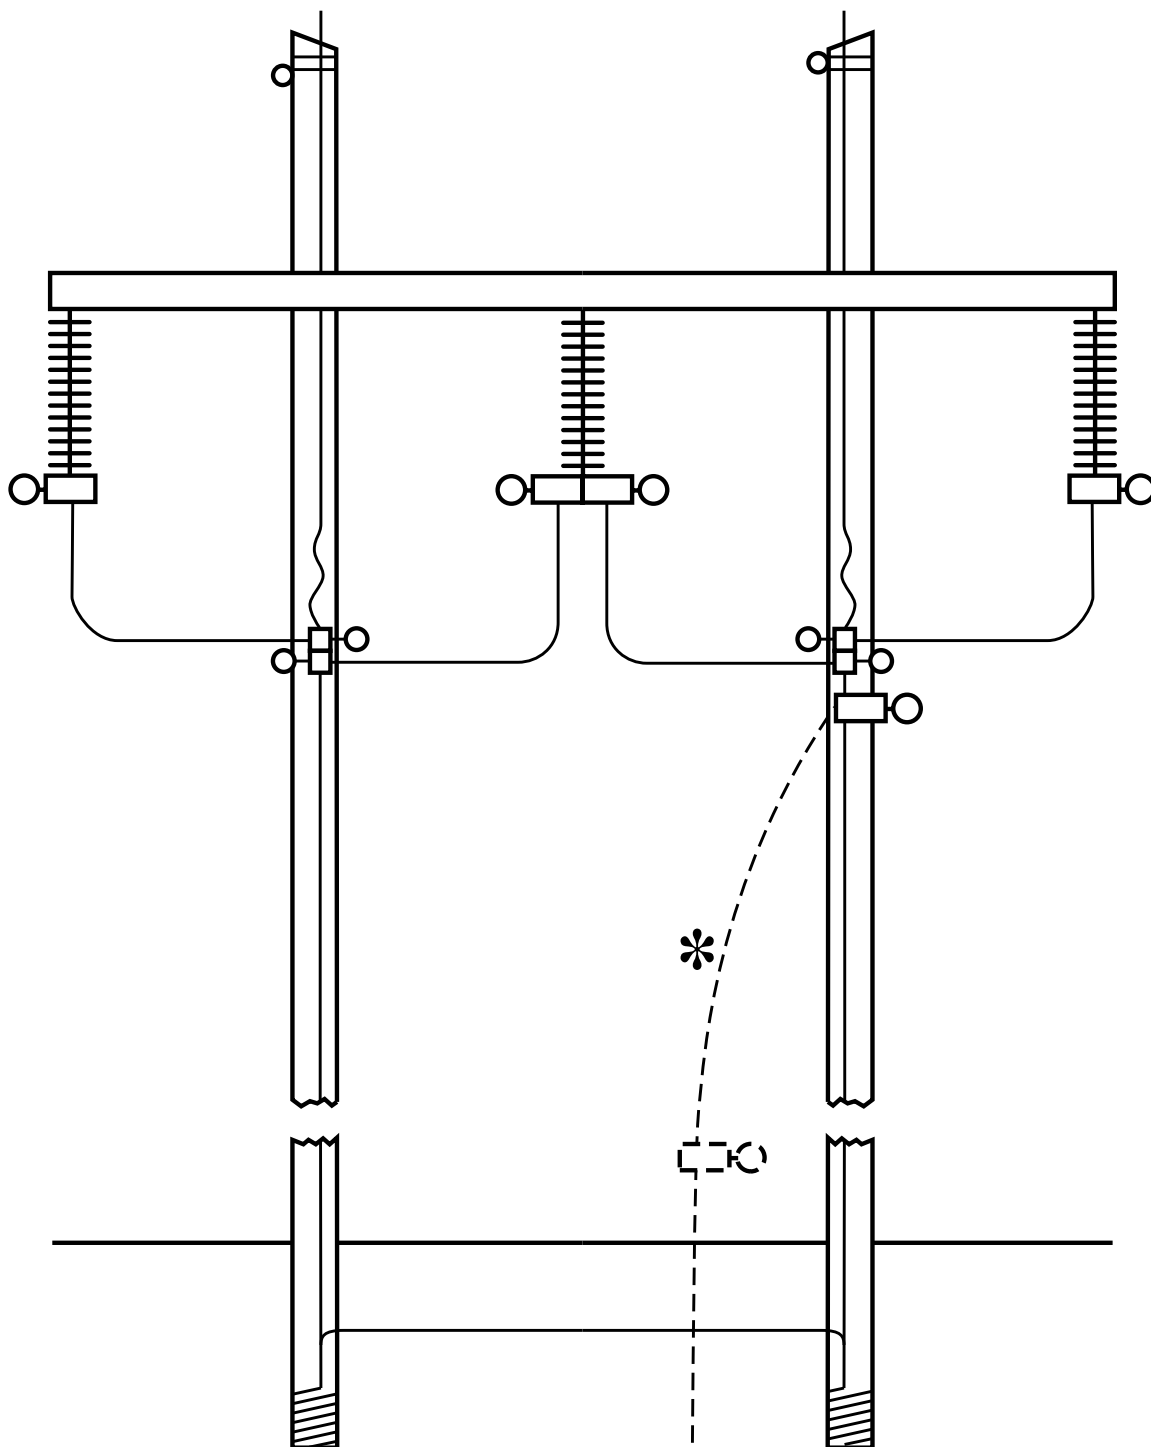

FIGURE 10.3
- b. Mount grounding cluster bars on the grounded-structure pole(s) no higher than conductor level and below the worker's feet as shown in Figures 10.3, 10.4 and 10.6, as the preferred methods.
- d. On structures without OGW, pole ground wires or with defective pole ground wire(s), bond the grounding cluster bars to ground rods, as shown in Figures 10.3 and 10.4, as the preferred method.